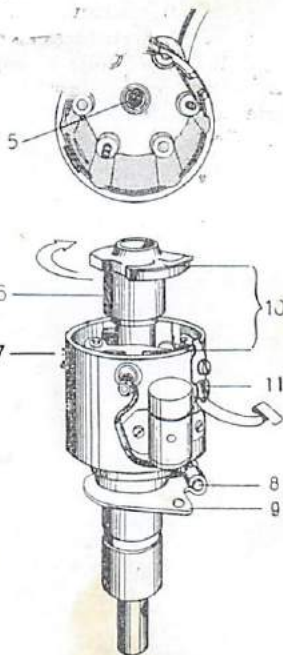

Fig. 28. Ignition Distributor
The ignition distributor is mounted to the right on the engine. The rotor is driven by the crankshaft via a worm gear and a pinion. It rotates clockwise and as shown in fig. 28, the firing sequence is 1—2—3 (No. 1 cyl. being the rear one).
The index of the rotor should now coincide with the index of the distributor body. This index is located on the rear side of the body and to the left of the guide lug which also serves as a support for one of the clamp springs. See fig. 28.
- a. Turn the crankshaft until the piston is at T.D.C. (See item 3. above). Note the rotor and distributor body should be at 10°.
- b. Loosen screw 8, fig. 28, and turn the advance regulator until the breaker points open. Make certain that the advance regulator points are retracted.